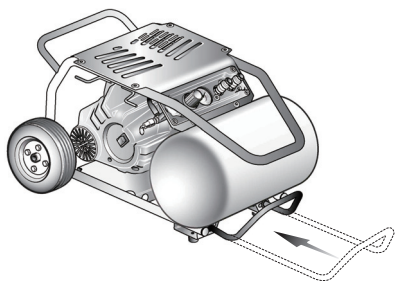

Fig. 9
**⚠ WARNING:** Always ensure the ON/OFF switch is in the OFF (O) position and the regulator pressure gauge reads zero before changing air tools or disconnecting the hose from the air outlet. Failure to do so could result in possible serious personal injury.
- Ensure the compressor is positioned as shown and that the telescopic handle is not extended. (Fig. 9)